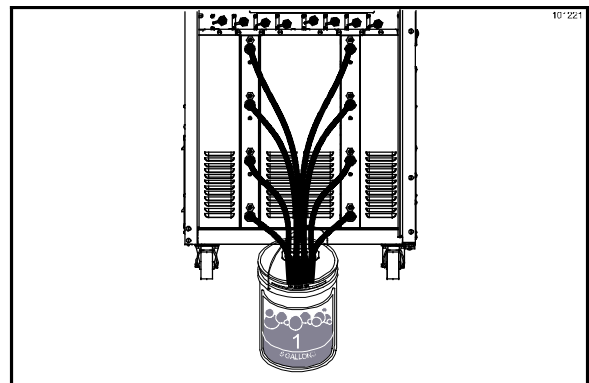

Figure 87
35. Install cleaning tubes onto all inlet fittings. Place the other end of the cleaning tubes into the pail of cleaning solution. (See Figure 87.)